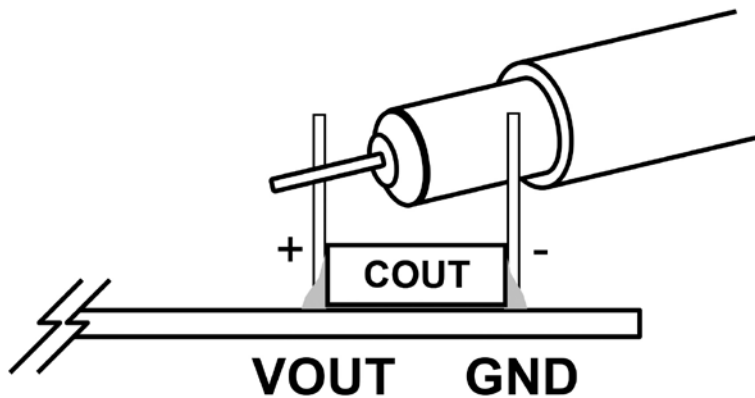

Figure 2. Scope Probe Placements for Measuring Input or Output Ripple
6. Once the input and output voltages are properly established adjust the loads within the operating range (0A to 2A max) and observe the output voltage regulation, output ripple voltage, switch node waveform and other parameters. Refer to Figure 2 for proper input/output voltage ripple measurement.
Note 1: To measure the input/output voltage ripple properly, do not use the long ground lead on the oscilloscope probe. See Figure 2 for the proper scope probe technique. Short, stiff leads need to be soldered to the (+) and (-) terminals of an output capacitor. The probe's ground ring needs to touch the (-) lead and the probe tip needs to touch the (+) lead.